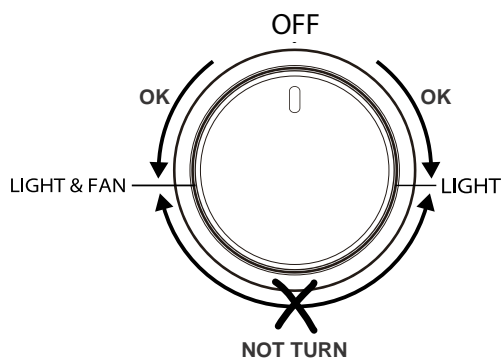

Fig. 3.2
The oven light and the fan motor are controlled by a switch knob on the control panel (fig. 3.2). To light up the oven lamp turn the knob anti-clockwise to LIGHT position.
- During ignition of the oven burner, the fan motor shall be switched off (light and fan control knob in OFF position – Fig. 3.2).
After lighting the oven burner switch on the fan motor by turning the LIGHT & FAN control knob (fig. 3.2) on LIGHT & FAN position.